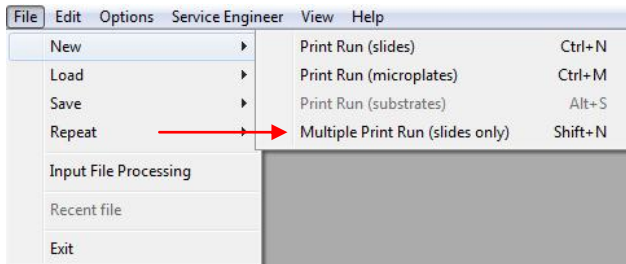

Figure 6-12 The File menu
- With the left mouse button, click **File>New>Multiple Print Run (slides only)** as shown in **Figure 6-12**.